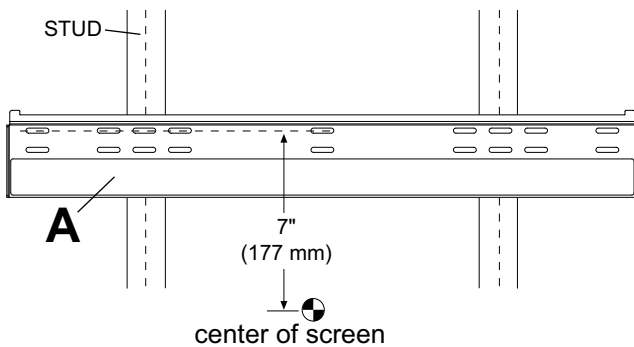
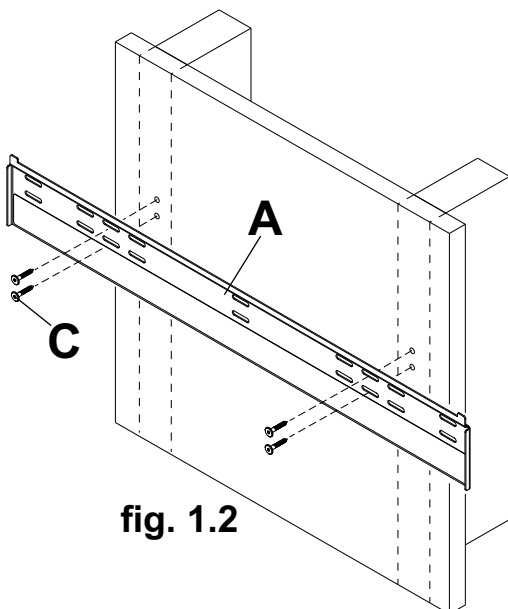

fig. 1.1
fig. 1.2
- 1 Wall plate (A) can be mounted to two studs that are 20" or 24" apart or three studs that are 16" apart. Use a stud finder to locate the edges of the studs. Use of an edge-to-edge stud finder is highly recommended. Based on their edges, draw a vertical line down each stud's center. Place wall plate on wall as a template. The mounting slots should be located 7" (177 mm) above the desired screen center as shown in figure 1.1. Level plate, and mark the center of the each mounting hole. Make sure that the mounting holes are on the stud centerlines. Drill four 5/32" (4 mm) dia. holes 2" (51 mm) deep when securing to two studs or six 5/32" (4 mm) dia. holes 2" (51 mm) deep when securing to three studs. Make sure that the wall plate is level, secure it using a wood screw (C) for each mounting hole as shown in fig. 1.2 or 1.3.
- 1** Make sure that wall plate (A) is level, use it as a template to mark six mounting holes. The top mounting slots should be located 7" (177 mm) above the desired screen center as shown in figure 1.1 page 4. Drill six 5/16" (8 mm) dia. holes to a minimum depth of 2.5" (64 mm). Insert anchors (D) in holes flush with wall as shown (right). Place wall plate over anchors and secure with six wood screws (C). Level, then tighten all fasteners.